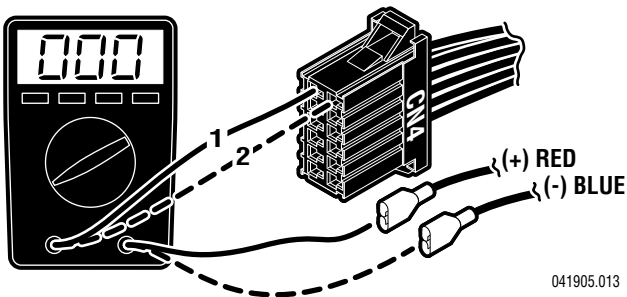

Figure 5-14.
2. Using an ohmmeter, test for continuity between pin 1 of CN4 and battery (+) connector. Also test between pin 2 of CN4 and battery (-) connector. See figure 5-14.